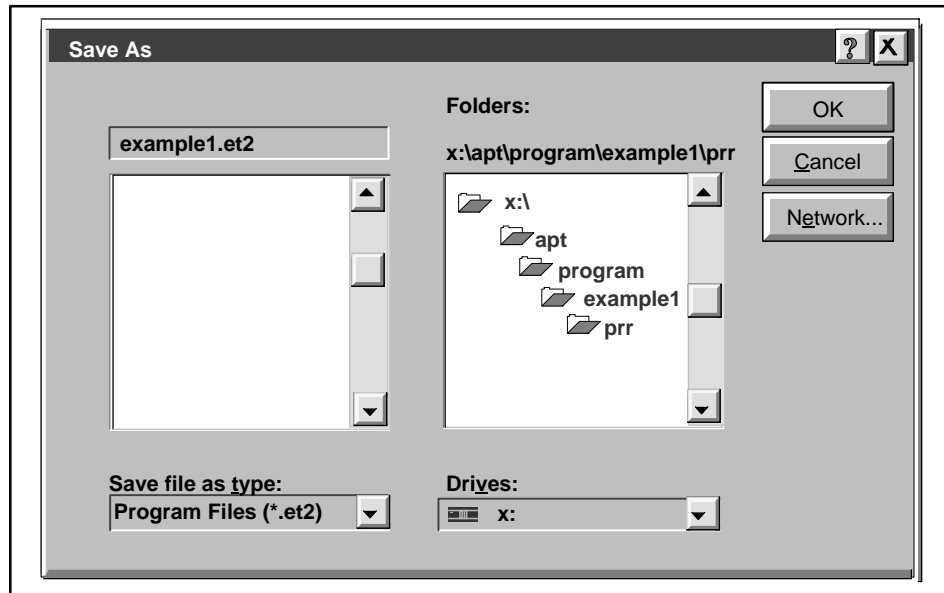

Figure 9-9 Saving the PROFIBUS Configuration
16. Select **File->Save As** to save the entire configuration. The **Save As** dialog box appears (Figure 9-9).
17. Enter a file name and confirm it by clicking **OK**. The recommended directory is shown in Figure 9-9. Placing the file in this directory assures that it will be archived with your APT program. In this example, the APT program name is **example1**.